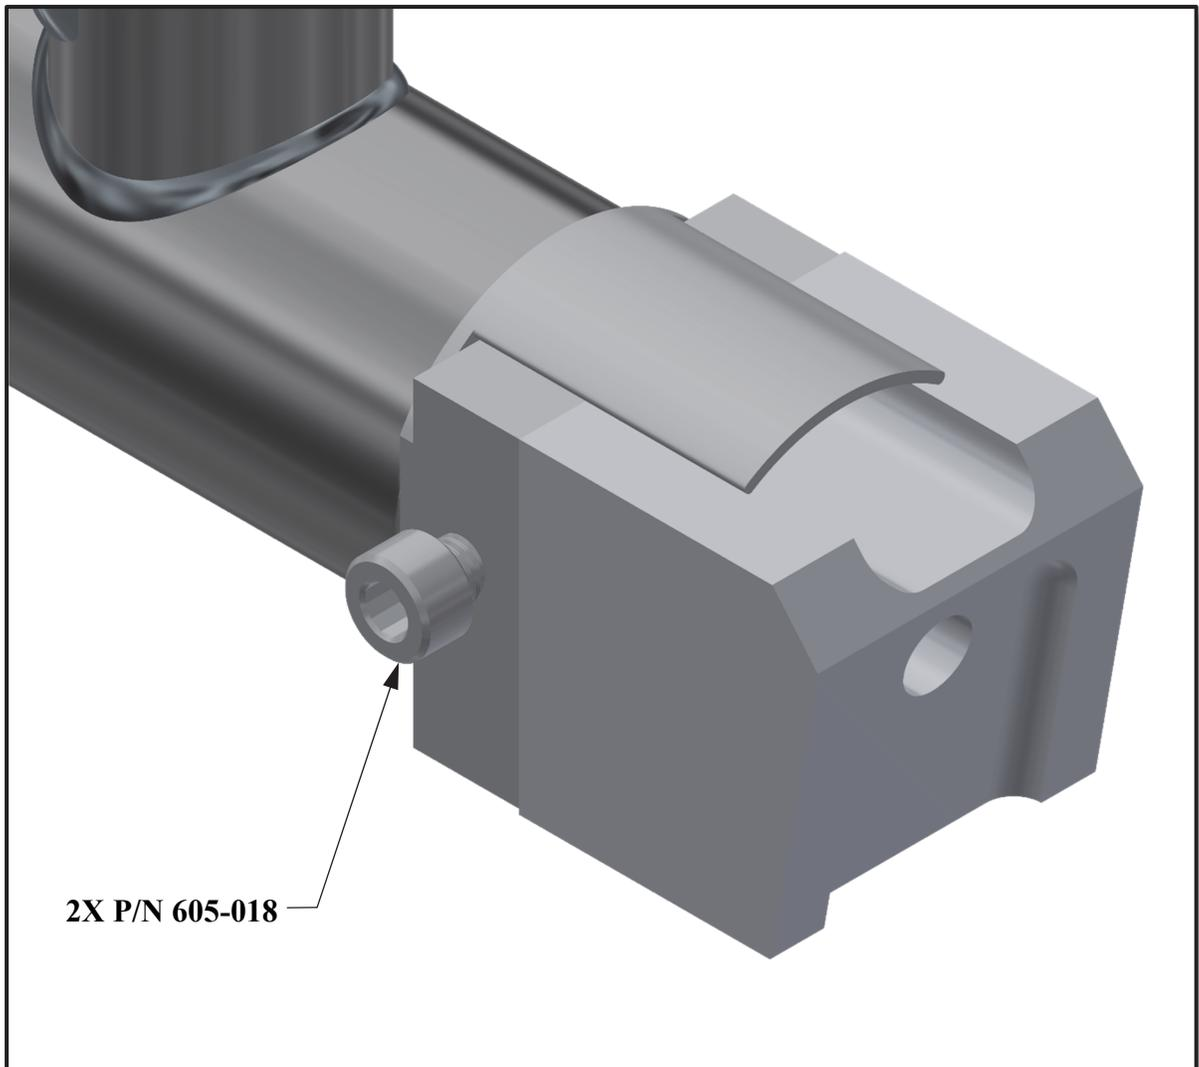

Figure 7.4
- a. Using a 5mm hex wrench remove the two socket head cap Screws, part number 605-018, from the Welding Shoe Assembly. The Shoe Assembly may be one of the following: TS-605-B/A, TS-605-60/A or TS-605-0500/A (see Figures 7.4 and 7.5).